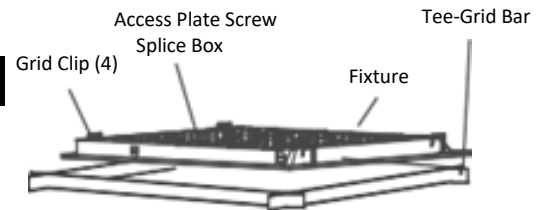

Fig.3
3. Support wires are required by installation codes. Support the Fixture to the building structure with Support Wires (supplied by others) through the Grid Clip Hole as shown in Fig. 3.